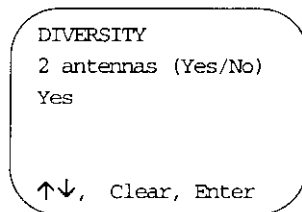

Figure 4-7. Diversity Screen
- f. Select **Diversity** from the main configuration menu. The *Diversity* screen (Figure 4-7) is displayed.